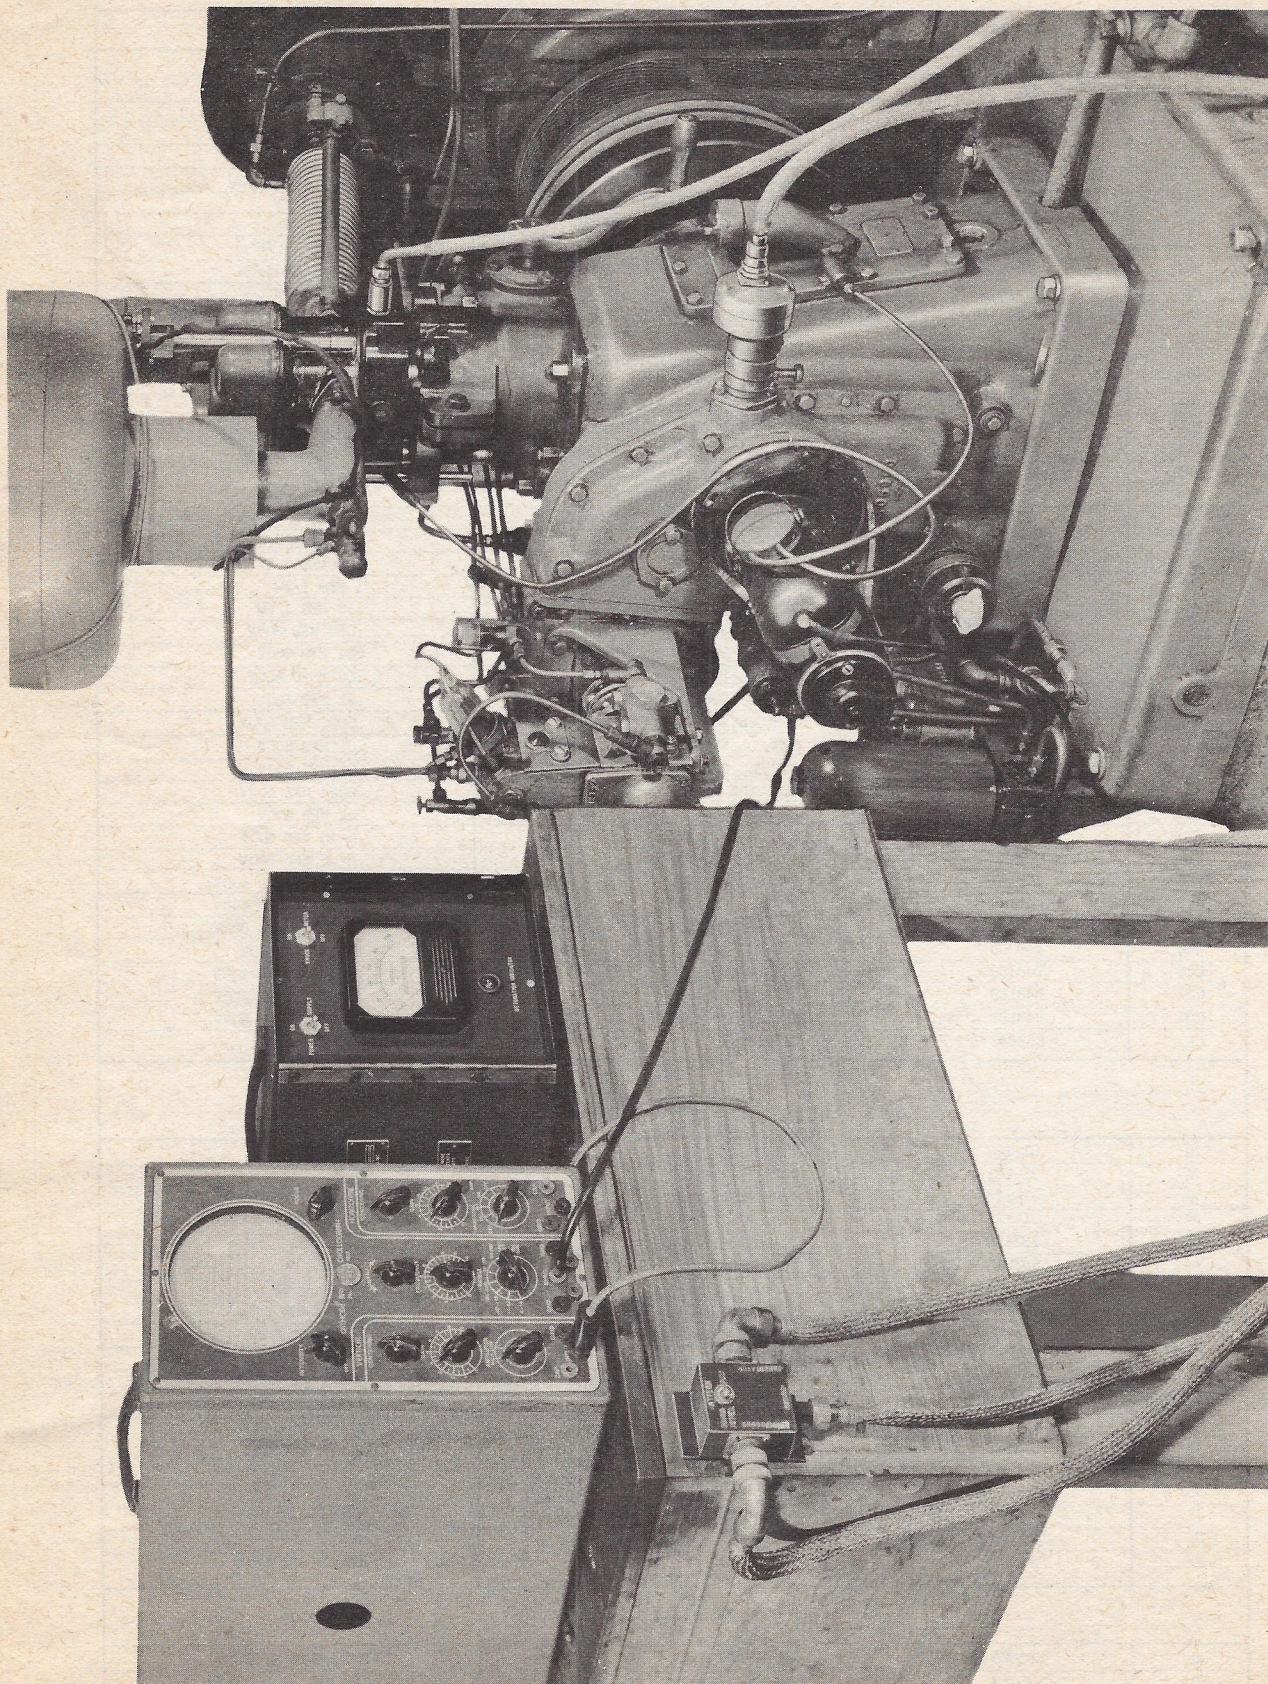

Figure 14 - A Typical Installation
(6) Lock the housing in the open circuit position.
(7) Rotate the flywheel slowly clockwise and counterclockwise and note the number of degrees that the flywheel rotates between the first closing of contacts and when they again open. This reading should be recorded for future checking of commutator wear.
c. JUNCTION BOX. - Mount the junction box in a location convenient for the operator. Drill holes through the mounting plate and secure it with screws. (See figure 14.)
d. KNOCKOMETER. - Place the Knockometer on a bench where it may be observed readily by the operator. (See figure 14.)